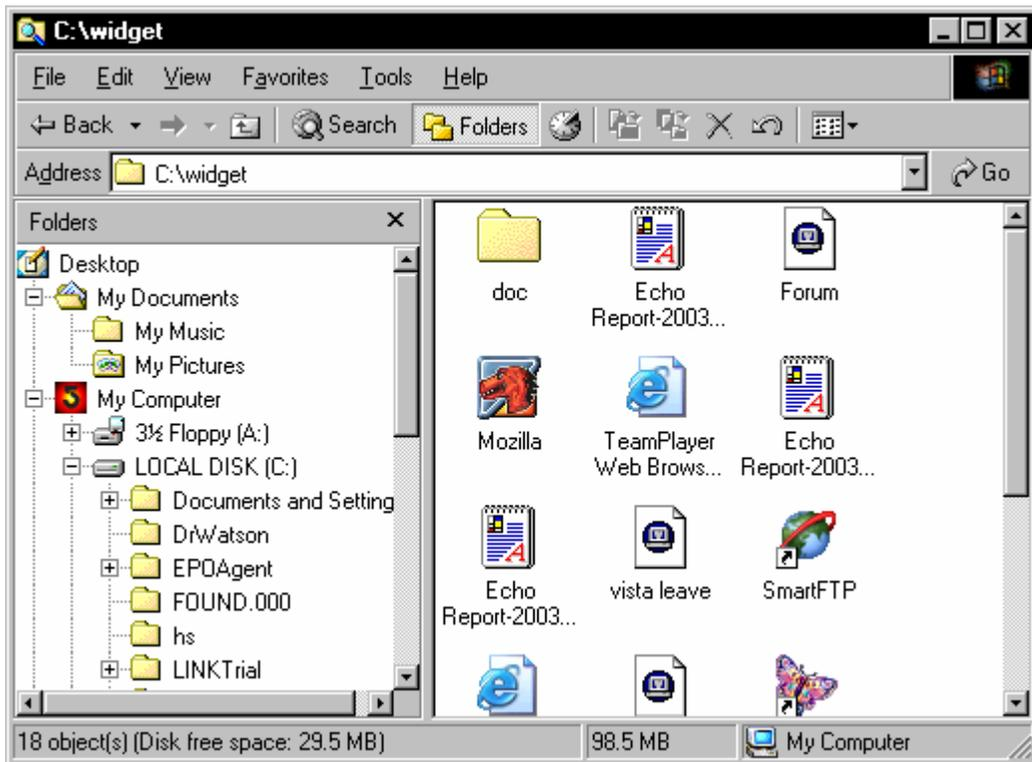

Fig. 11-1
1. Using Windows Explorer, go to the parent directory of the folder that contains the folder to be shared (doc folder) (Fig. 11-1).